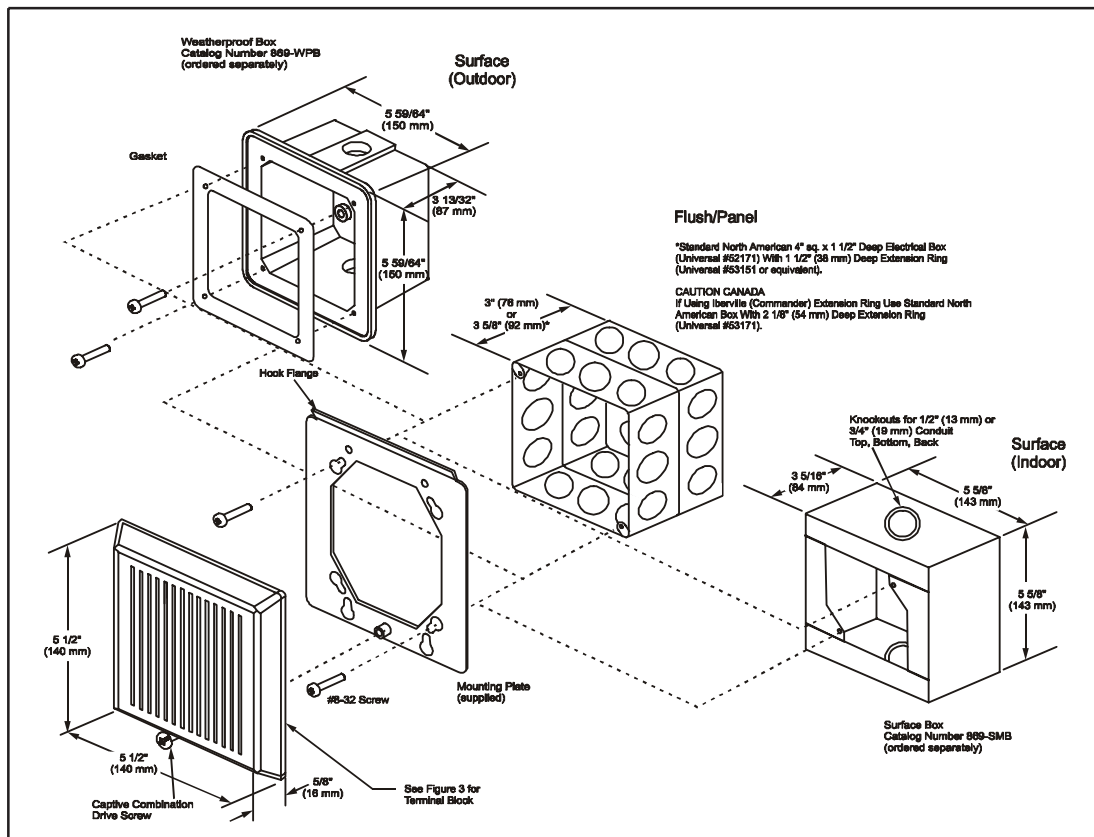

Figure 1. Detailed View
- Select mounting method as detailed in Figure 1 and install the electrical box (not supplied) using suitable hardware.
NOTE: Be sure hook flange is facing outward as shown in Figure 1.
6. Mount the horn assembly on the mounting plate (Figure 1).